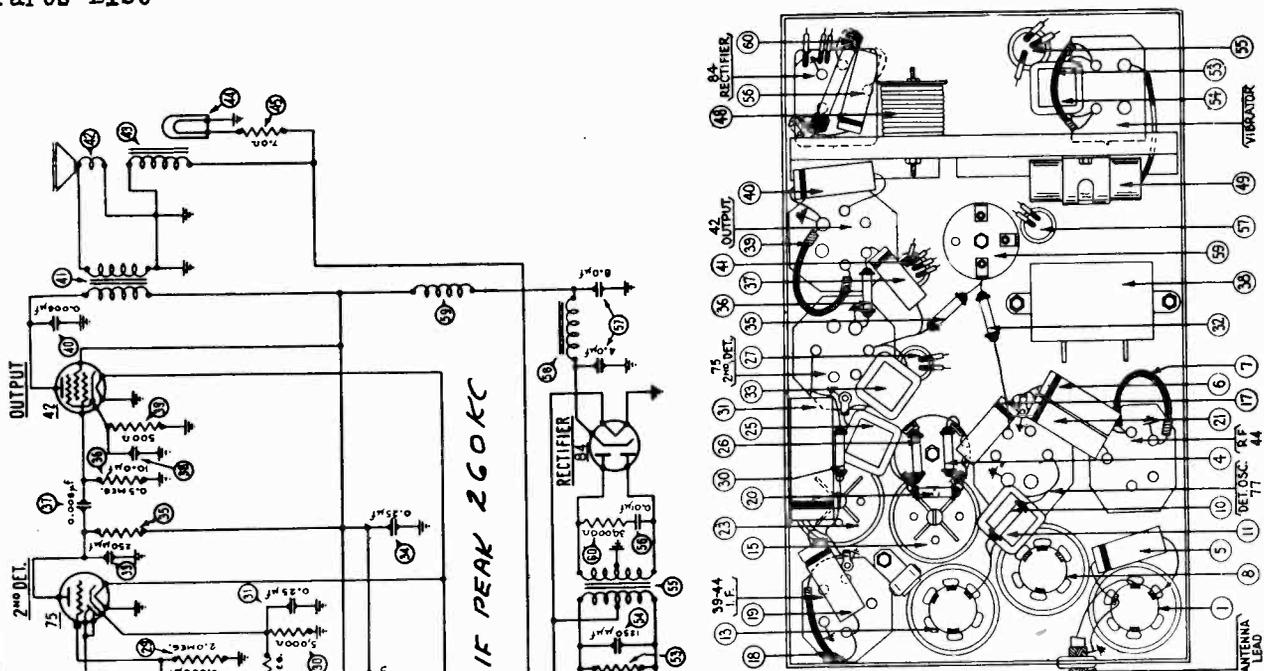

FIG. 4
1. I. F. (Intermediate Frequency). Remove the grid clip from the cap on the 6A7 tube and attach the shielded antenna lead from the signal generator to the grid cap of the 6A7. Set the switch of the signal generator at 260 K. C. (the I. F. of Model 18) and the dial of the set at 550. Turn on the set and signal generator. Adjust each of the three I. F. compensating condensers in turn to give maximum reading in the output meter (connected to primary of output transformer). If the needle on the meter goes off scale, turn down the attenuator adjustment on the signal generator. See Fig. 4 for locations of the I. F. compensating condensers. The first and 2d I. F.